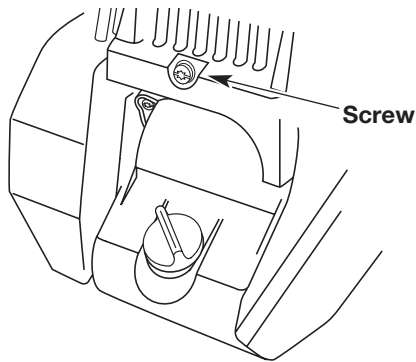

Fig. 52
- Remove the screw behind the engine cover (Fig. 52).
- Remove the engine cover (Fig. 52).